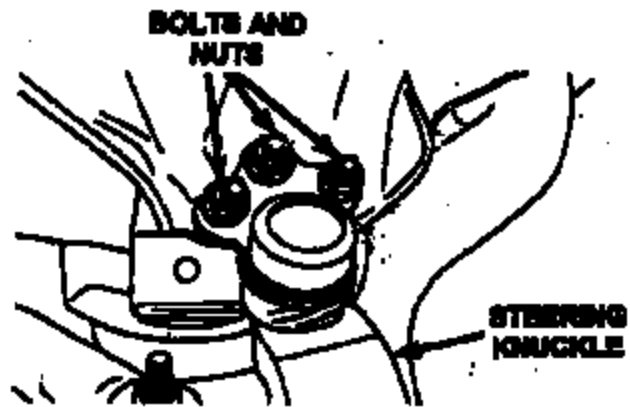

Figure 3
12. Insert the bolts supplied with the ball joint package from the bottom side of the control arm (Figure 3).
13. Place the new ball joint onto the control arm and install retaining nuts (Figure 3). Tighten the nuts to 50 ft. lbs. (68 N·m).